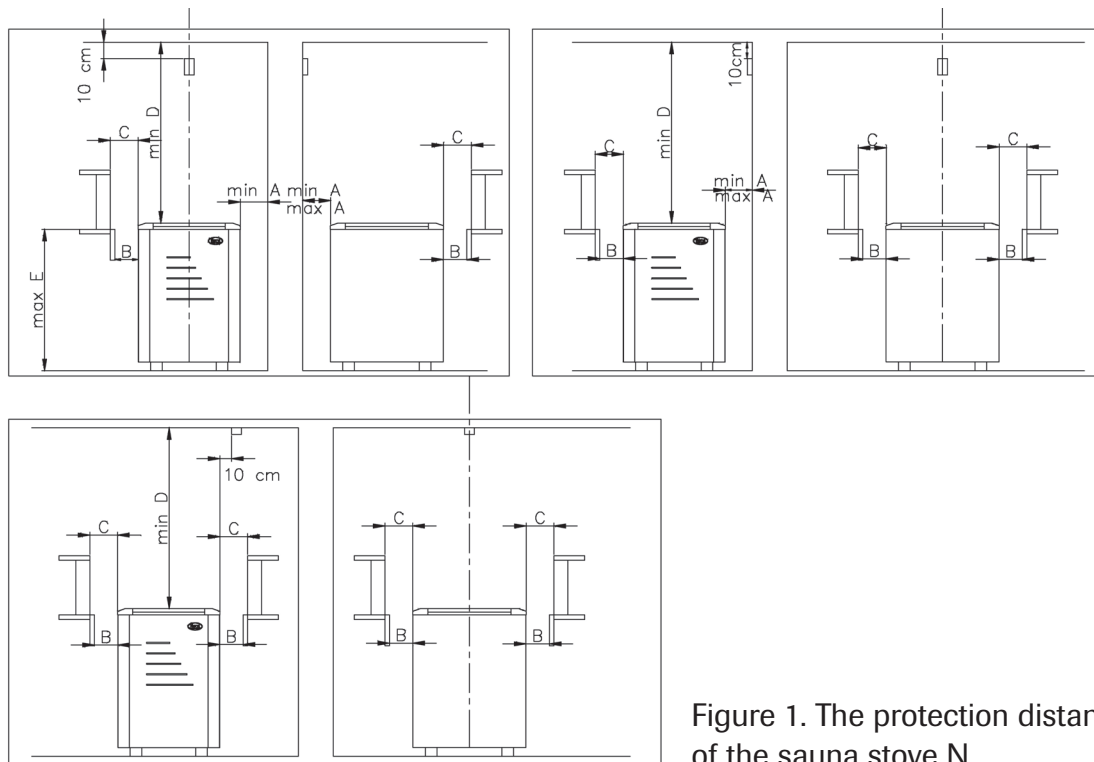

Figure 1. The protection distances of the sauna stove N
- The stove can also be installed in a wall recess where the protection distances according to Figure 1 must be considered.
\*\*) See Figure 1